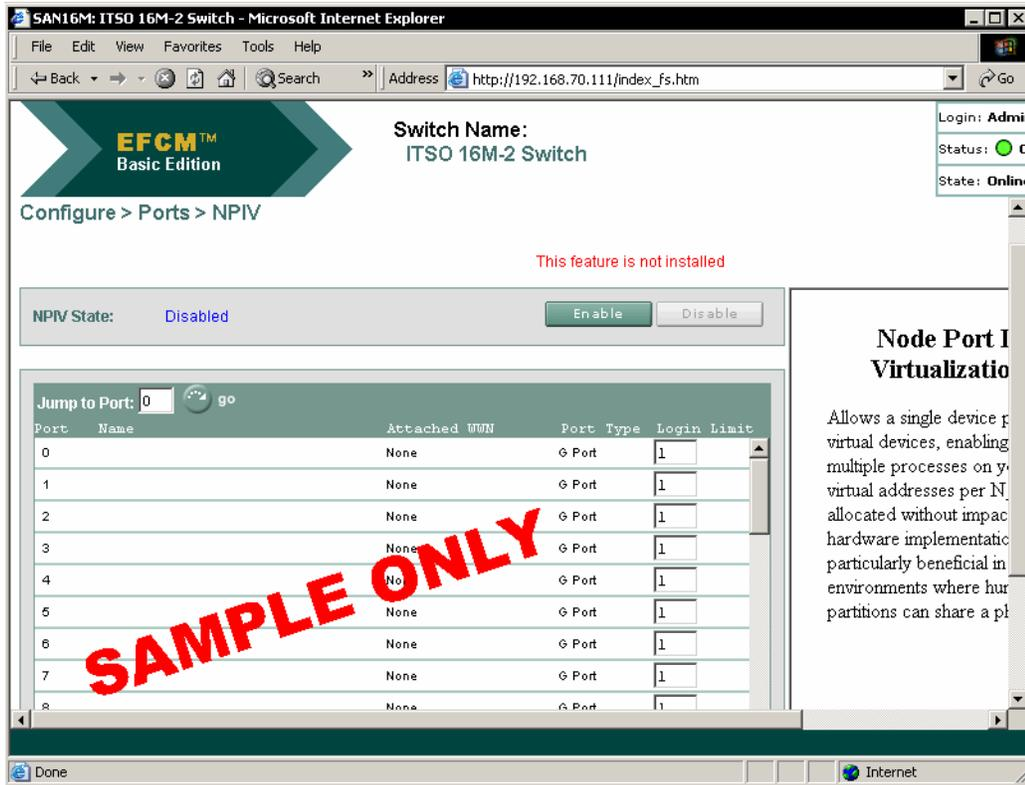

Figure 37 Ports - NPIV not installed
1. From the EFCM Basic interface click **Configure** and select **Ports** and **NPIV** to display the NPIV view. If the NPIV license has not been installed the display will look like Figure 37 on page 34.